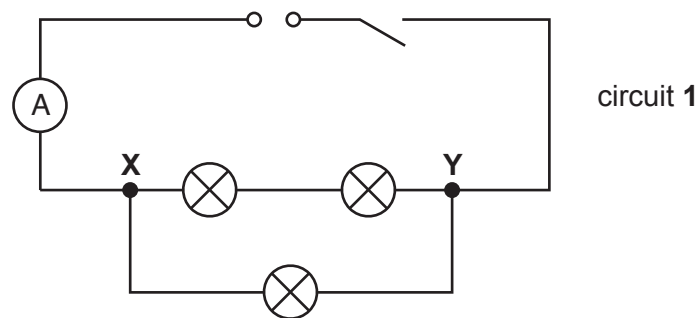

Fig. 5.1
- (iv) sufficient connecting leads to set up the circuit shown in Fig. 5.1
2. The circuit is to be set up for candidates as shown in Fig. 5.1. Points **X** and **Y** must be labelled.
Reconnect the circuit shown in Fig. 5.1 **and disconnect the voltmeter.**